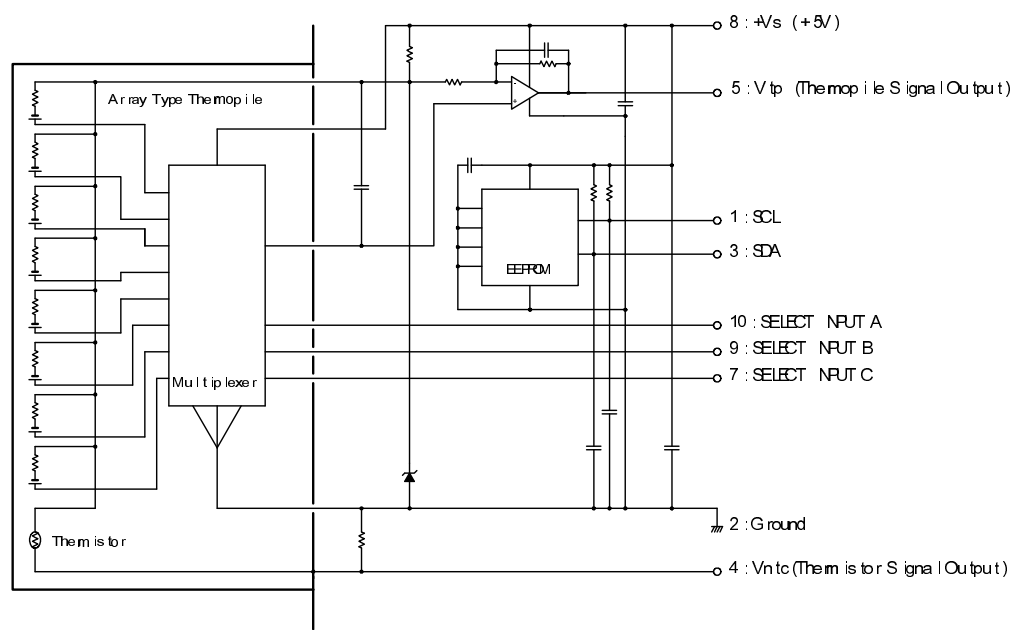

Fig. 2 : Circuit Configuration
4.5. Circuit Configuration	See Fig. 2